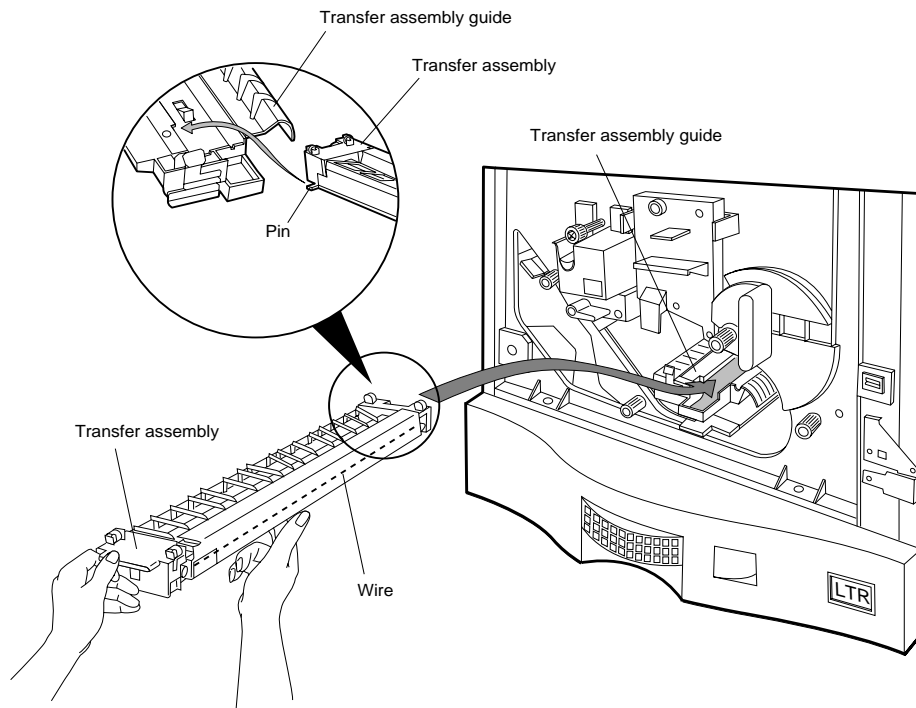

Figure 4-31 Inserting the Transfer Assembly into the Guide
2. Using the alignment pin located on the end of the transfer assembly, insert the alignment pin of the transfer assembly into the left rail of the transfer assembly guide and push in to the end of the guide as shown in Figure 4-31.